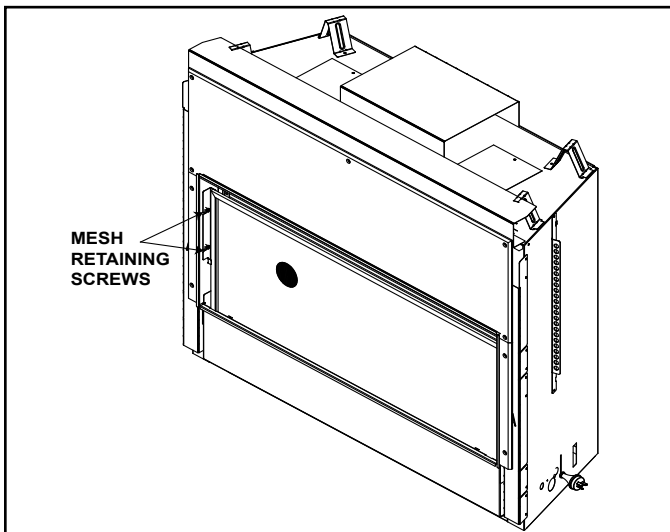

Figure 7. Mesh Installation
5. Place mesh into position with retaining screws removed. See Figure 7.
6. Install two Phillips screws into the two rivnut holes on the left and right sides of the fireplace opening. See Figure 7. Do not tighten screws. See Figure 6.